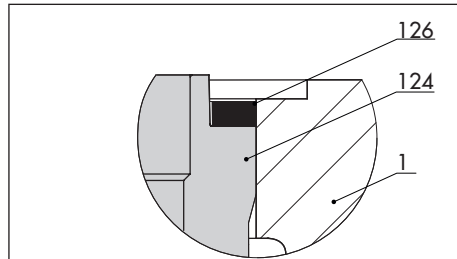

Fig. 9-2: Gasket (126)
1. Undo the body nuts (14) gradually in a crisscross pattern.
2. Lift the yoke (60), bonnet (2) and plug with plug stem (5) off the body (1).
3. Remove the gasket (17), shims (125) and gaskets (126).
5. Measure how many gaskets (126) are required as described in section 9.4.5. Insert new gaskets (126) into the groove of the seat retainer (124). See Fig. 9-2.